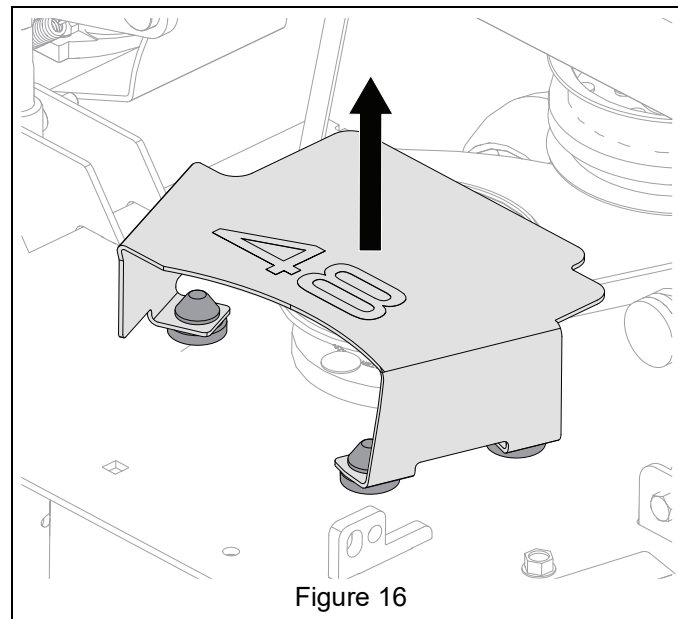

Figure 16
1. Remove right side belt cover and retain for use without OCDB kit. See Figure 16.